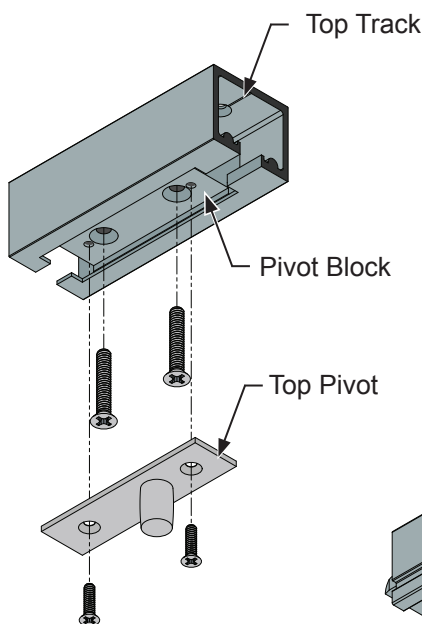

Fig. 1
1. The top track assembly is packed complete with top pivot, pivot block, and roller assemblies installed. Remove the top pivot(s) from the pivot block(s). This will expose the temporary screws holding the pivot blocks to the top track. Remove these screws and discard them. **(Fig. 1)**